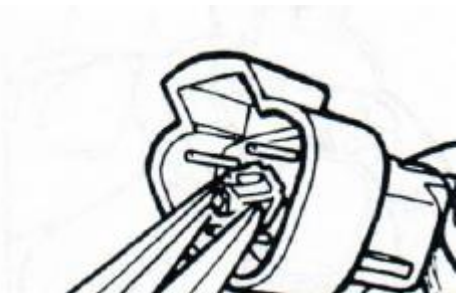

Figure 213
25. To remove the contacts on the smaller DT series connector, remove the wedge from the center of the connector using a needle nose pliers. Figure 213